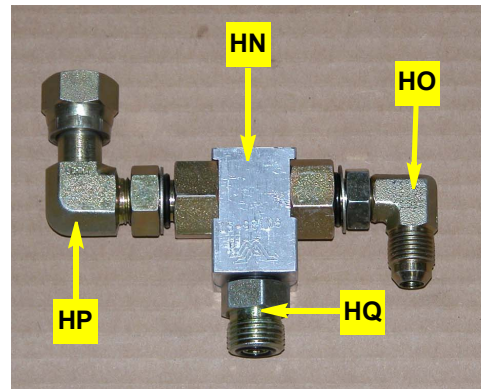

Figure 5a: Assembled load sense shuttle
- a. Assemble the load sense shuttle **HN** with adapter fittings **HO**, **HP** and **HQ** (Figure 5a).